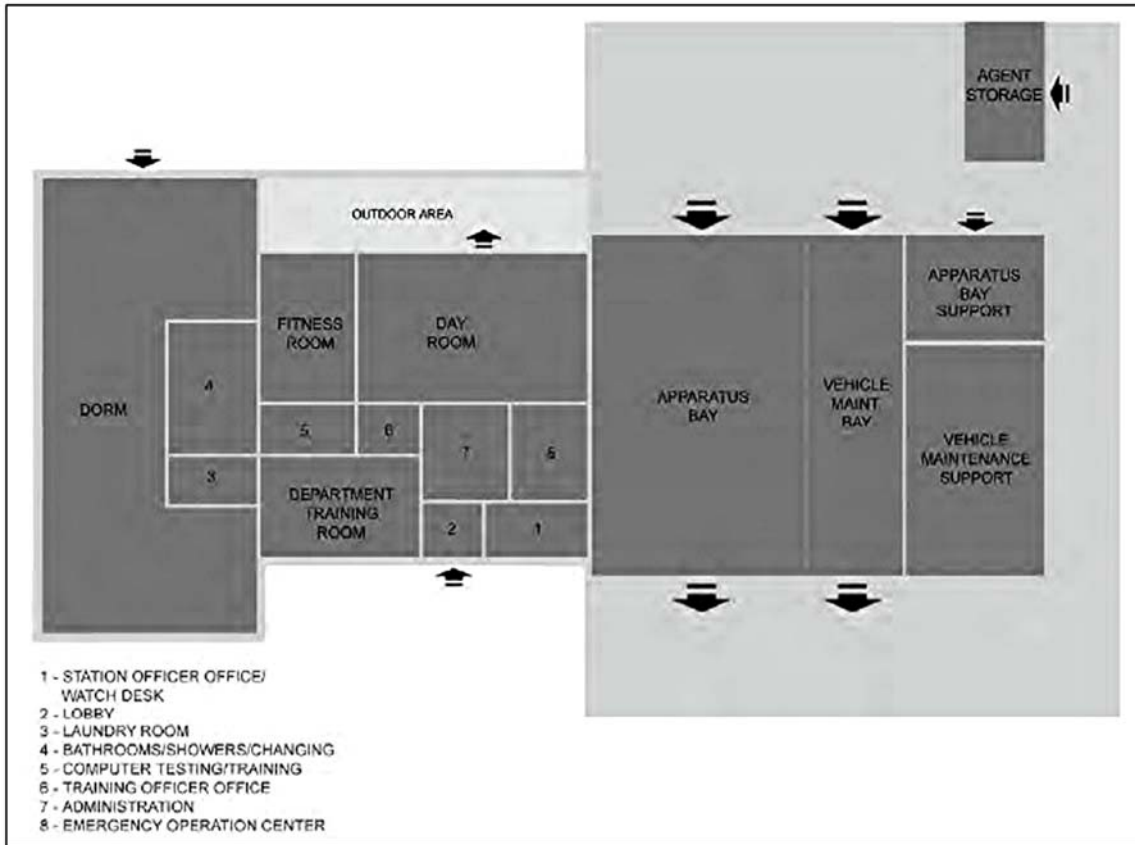

Figure 2-3
2.5.2.2 Figure 2-3. This diagram illustrates a layout for an HQ/Main station with larger administrative and training components.